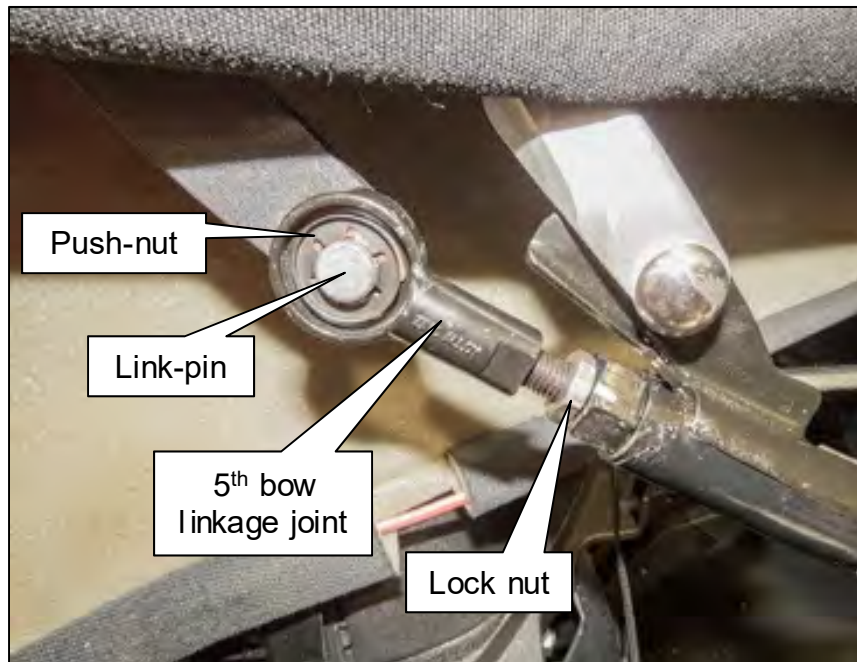

Figure 32
37. Remove the push-nut and then pull the link-pin out of the 5th bow linkage joint (see Figure 32).